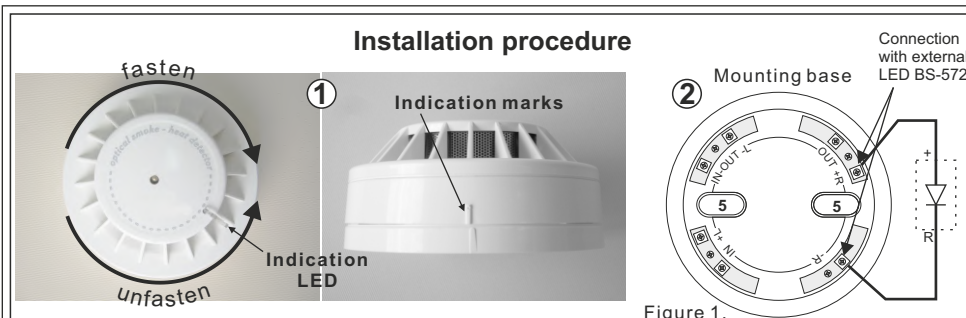

Figure 1.
3. Connect the power cables (respect to polarity) according to the installation requirements (figure 1,2).